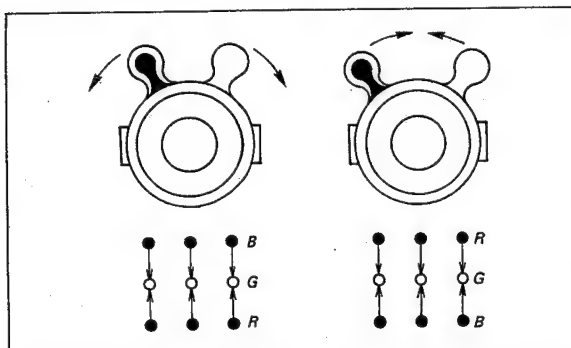

Fig. 3-8.
1. Spread the two tabs of beam alignment magnet in equal amounts opposite directions to converge red dots and blue dots with green dots. See Fig. 3-8.